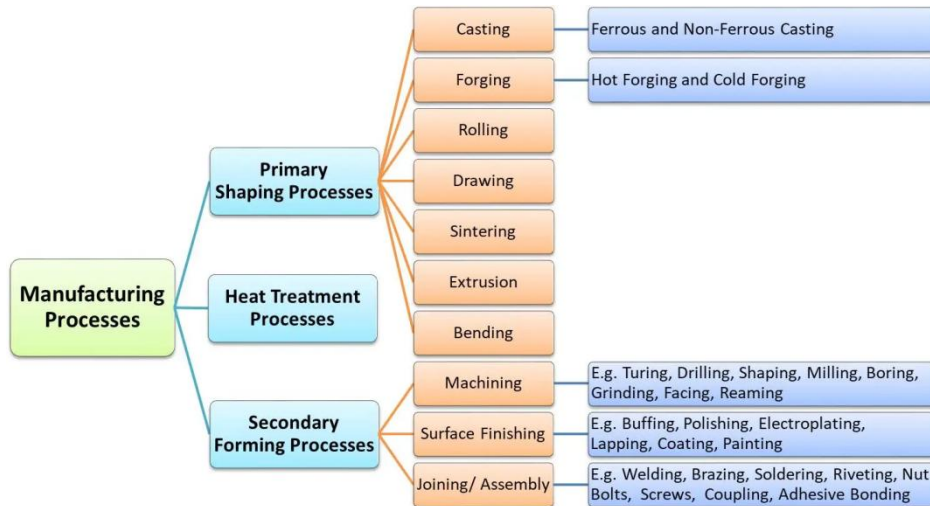

Figure.2: Types of manufacturing methods
- 4. Manufacturing Methods:** The methods used in manufacturing, production, or processing have a significant impact on the properties and performance of materials. The types of manufacturing methods are shown in the **Figure.2**.